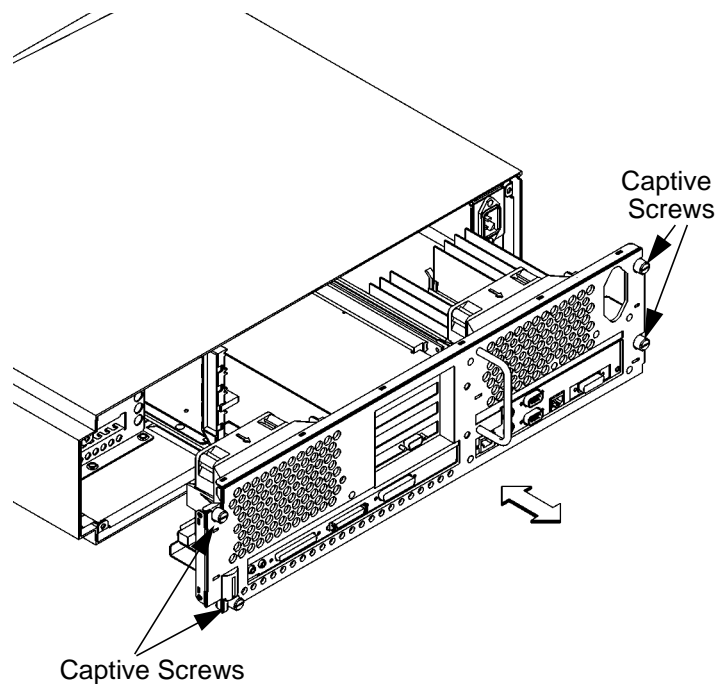

Figure 36
- 1 Align the main tray assembly with the chassis and slide it into place, as shown in Figure 36.
- 4 Tighten the four captive screws, as shown in Figure 36.